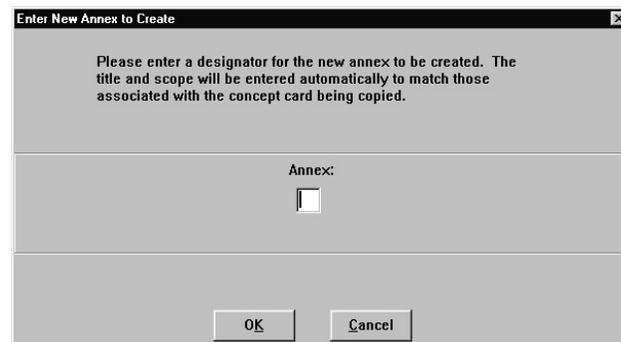

Figure 6-81. Enter New Annex to Create
- c. If you choose Create a New Annex, the Enter New Annex To Create dialog box (Figure 6-81) opens.
- c. If you choose Create a New Annex, the Enter New Annex to Create dialog box (Figure 6-81) opens. Enter a new annex designator (one alphanumeric character) that does not already exist in the Working course. MCAIMS will automatically add the same annex title and scope that is associated with the concept card being retrieved. You must complete this field to save the record. Click on **OK**. Proceed to Step 8.